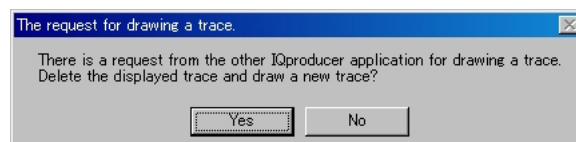

Figure 3.5-4 Confirmation message
2. Select **FFT** from the **Simulation** menu or click the  tool button. The confirmation message shown in Figure 3.5-4 below appears: